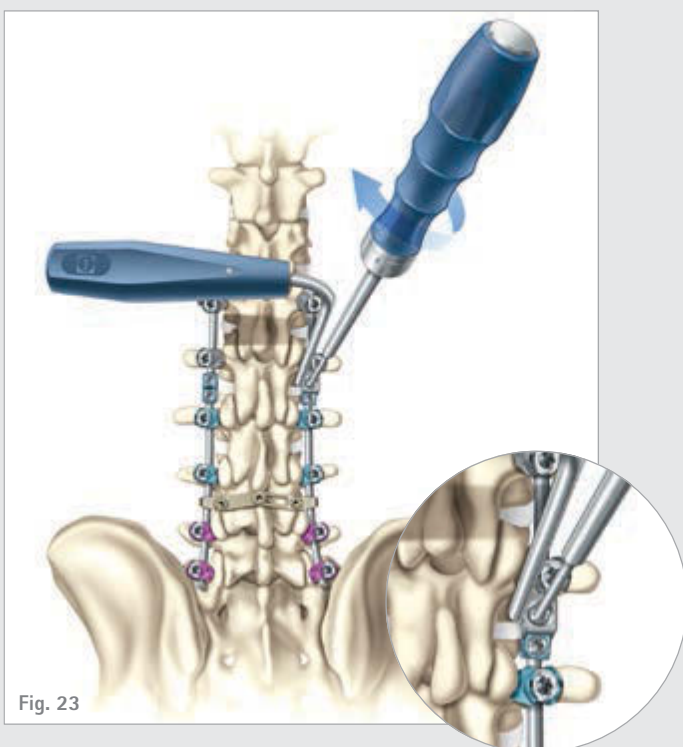

Fig. 23
- Final tighten by applying 4 Nm (36 in/lbs) of torque using the Cross Connector Torque Wrench (FW207R) and the Rod-To-Rod Connector Counter Torque Device (FW495R). (Fig. 23)